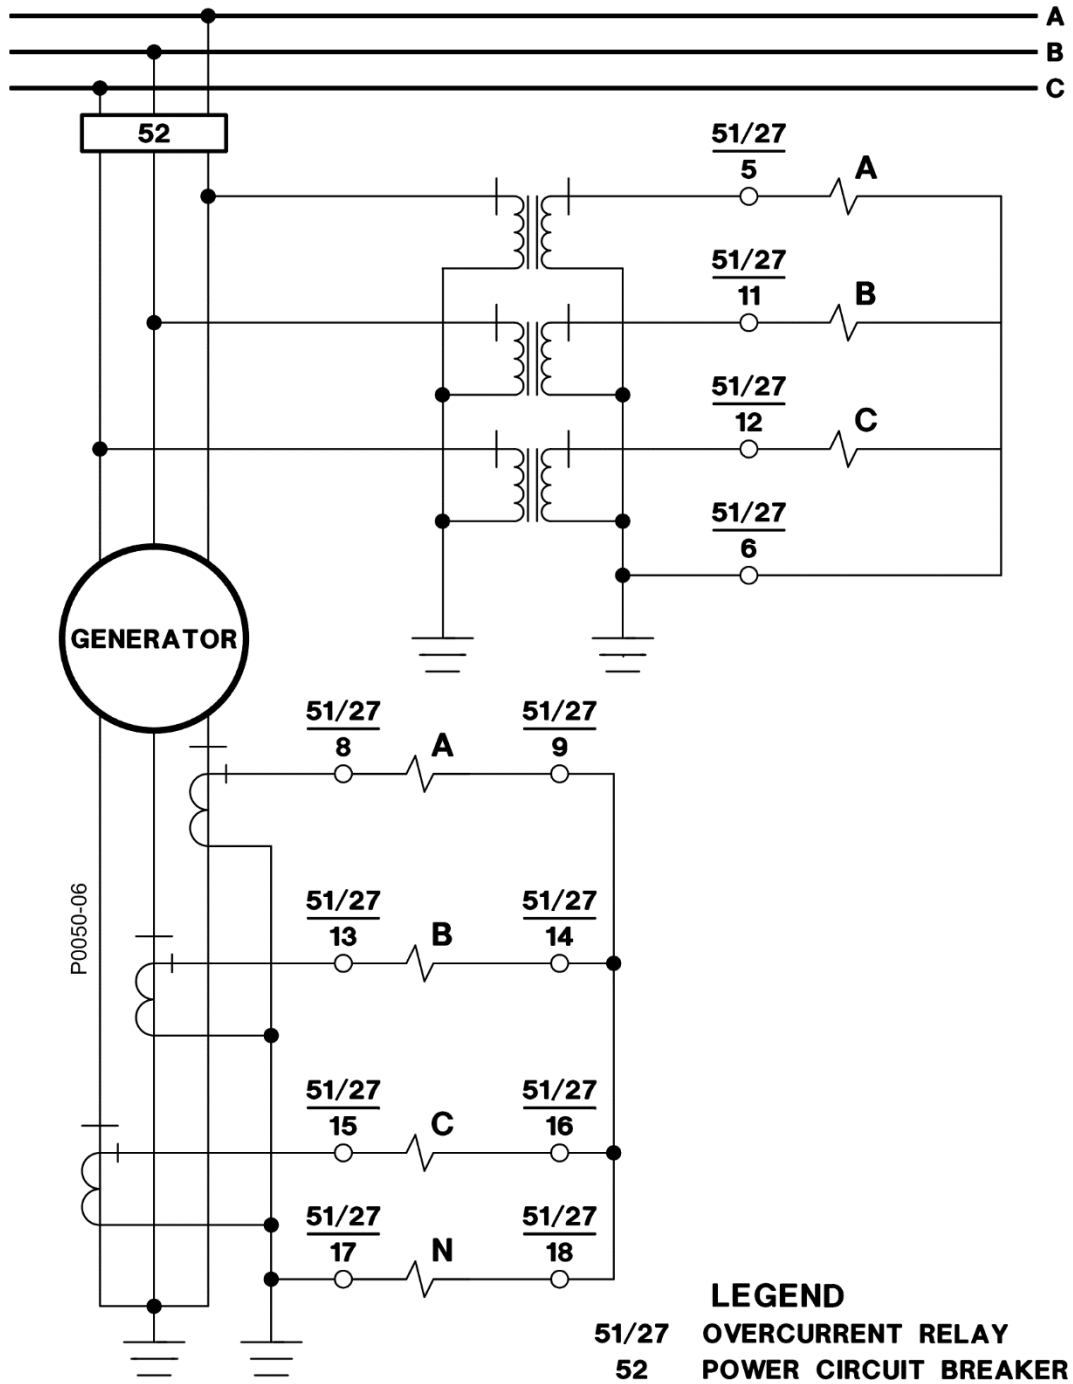

Figure 4-16. Typical Sensing External Connections, Sensing Input Type T
- Figure 4-16: Typical Sensing External Connections, Sensing Input Type T